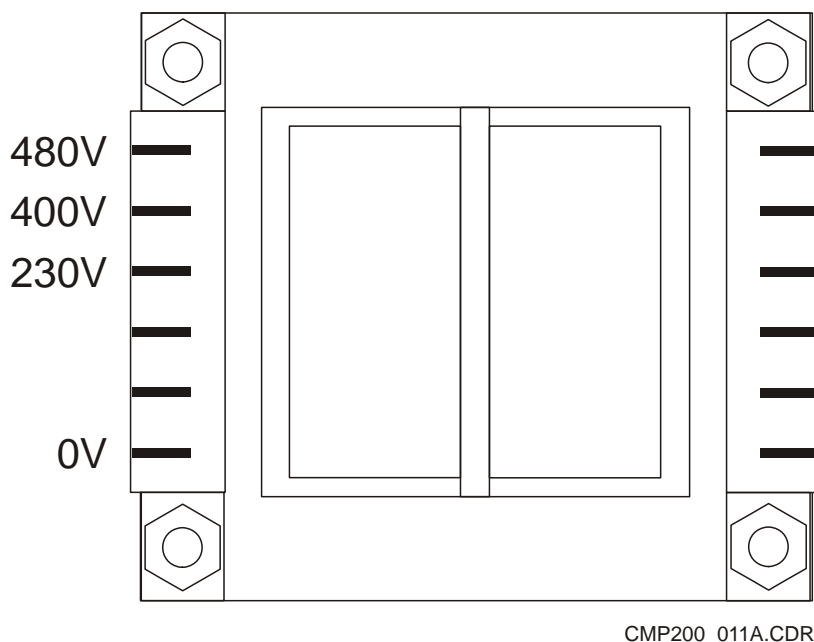

Figure 2-8: Touchscreen transformer, terminal view
3. Note the primary tap position on this transformer as determined by the location of the wire on the 400 V or the 480 V tap. This is set to the 400 or 480 V tap to match the line voltage specified at the time of the order. Refer to figure 2-8; this shows the terminal side of the transformer.